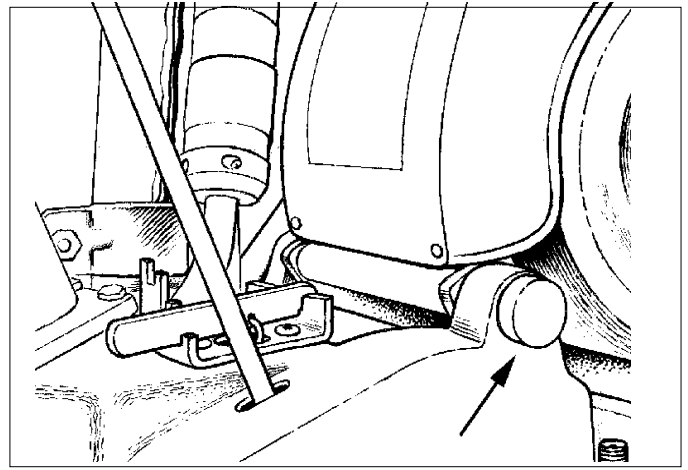

Figure 8
6. Unscrew the motor mounting knobs to loosen the motor. (See Figure 8)